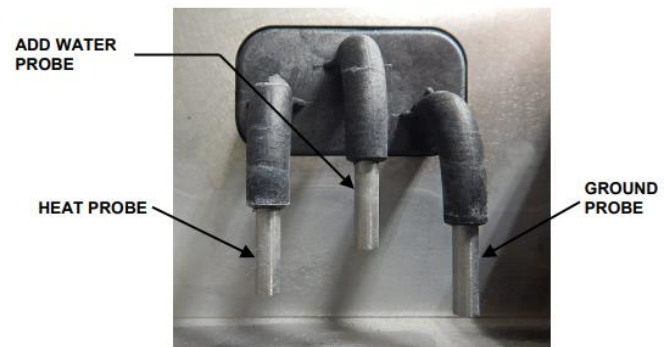

Figure 8-1
- The “ADD WATER” alarm and indicator will turn ON whenever the water level drops below the water sensors located at the lower right front of the steamers interior. (See Figure 8-1).